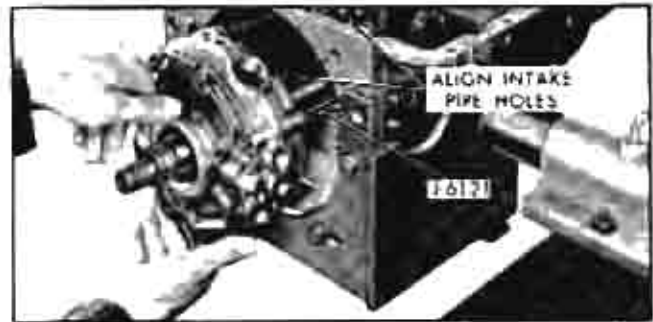

Fig. 158 Installing Pump
3. Pilot pump and overrun clutch assembly over intermediate shaft and studs (Fig. 158) making sure intake pipe holes in pump and case are aligned.